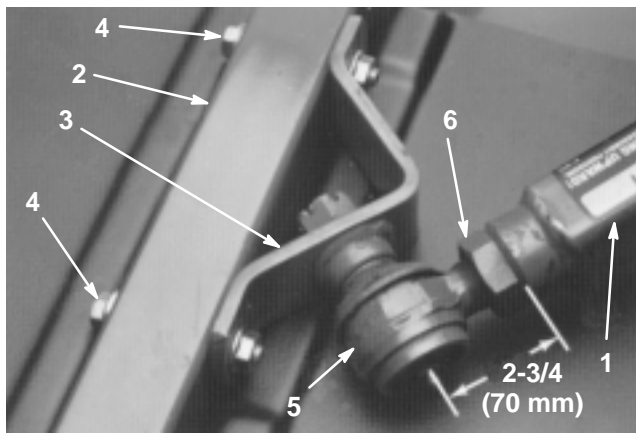

Figure 5
3. Measure the distance from the end of the right-hand push arm to the center of the ball joint (grease fitting) (Fig. 5). The distance should be 2-3/4 in. (70 mm). If the distance is not 2-3/4 in. (70 mm), loosen the jam nut securing the ball joint to the push arm and rotate the ball joint in or out until the correct distance is attained (Fig. 5). Do not tighten the jam nut at this time.
6. Tighten the large jam nut securing the ball joint to the push arm (Fig. 5). When tightening the jam nut, hold the ball joint straight to permit proper oscillation during raising and lowering of the cutting unit. Carefully remove the wood block holding the push arm down.